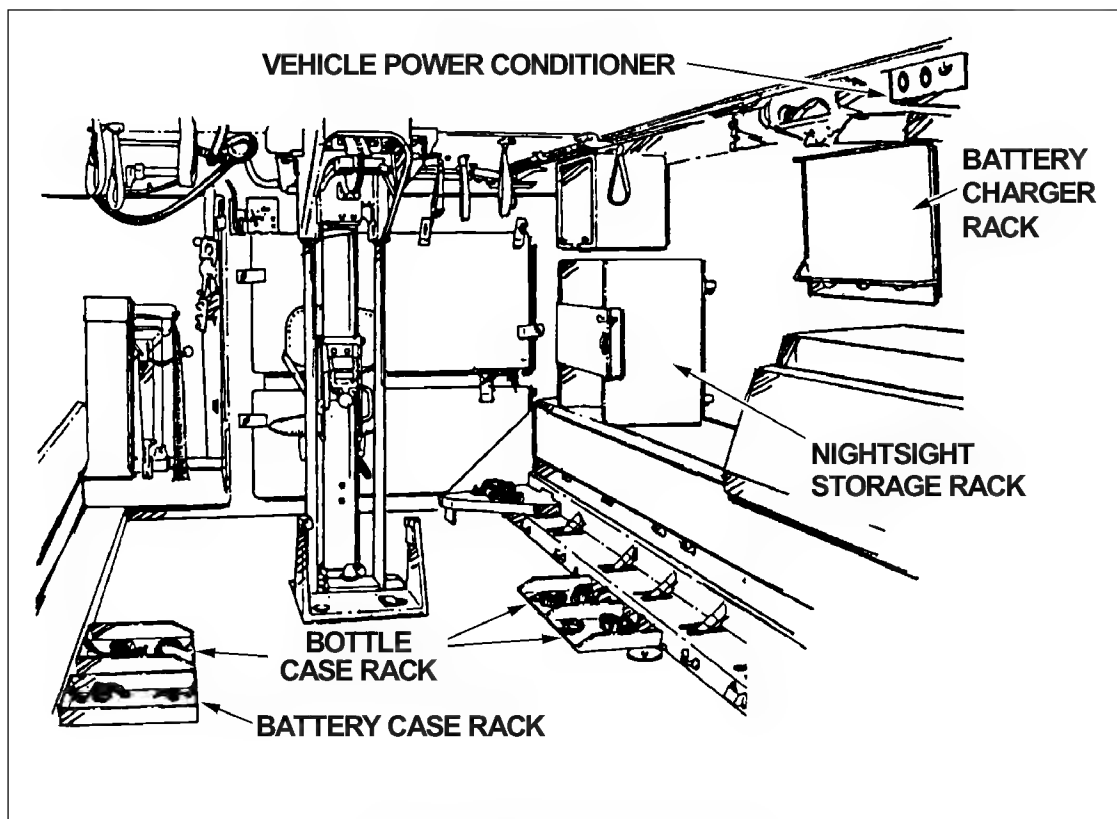

Figure E-8. Vehicle storage kit.
c. **Vehicle Storage Kit.** Each M113 APC assigned to a mechanized infantry squad has one of these kits installed (Figure E-8, page E-5). It consists of the following nightsight support equipment:
- (1) A nightsight storage rack, located just below the daysight storage case.
- (2) A vehicle power conditioner (VPC) to “step down” the power of the 24-volt battery to the required level.
- (3) A battery charger rack and a PP-7382/TAS battery charger also operate from the APC power source.
- (4) Three storage racks for coolant cartridge containers and one storage rack for a battery container are located under the personnel seats.